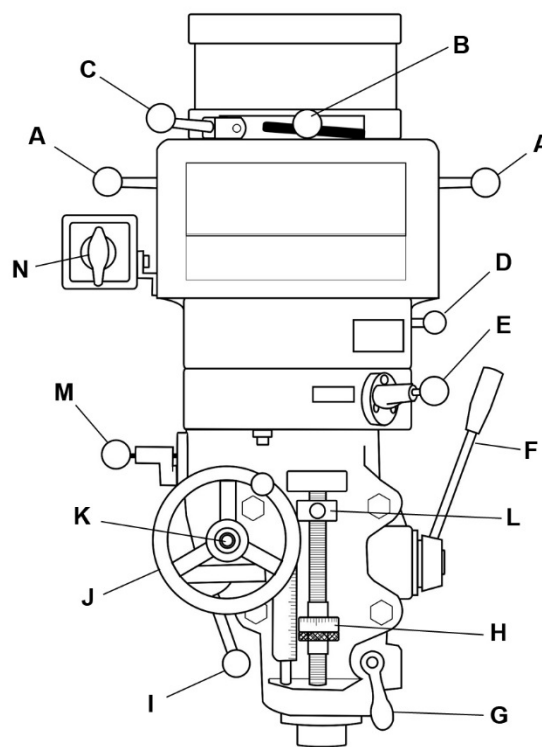

Figure 5: controls
Refer to Figure 5:
- A. **Motor Lock (Belt Tension) Levers** (A, Figure 5) – Slide levers to loosen motor mounting; shift motor to release tension on belts and reposition belts for different speed range.